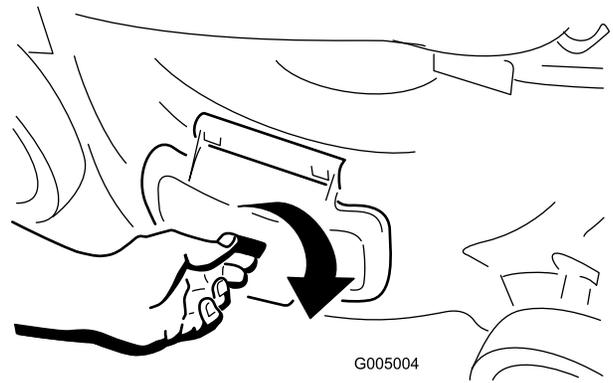

Figure 22
**Important:** Lock the side discharge door after you close it (Figure 22).